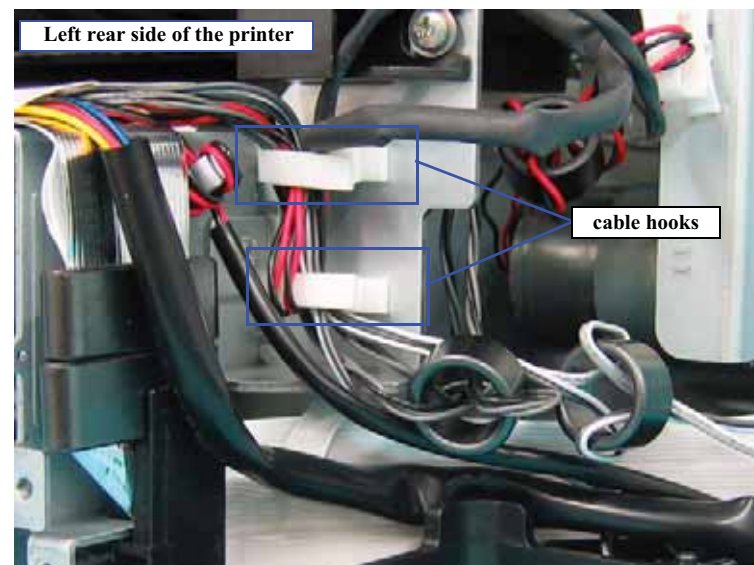

Figure 4-103. Releasing the MOTOR, RELEASE, ASSY. Cables (2)
5. Release the cables of the parts listed below, which are components in the MOTOR, RELEASE, ASSY. from the two cable hooks. *See Figure 4-103.*